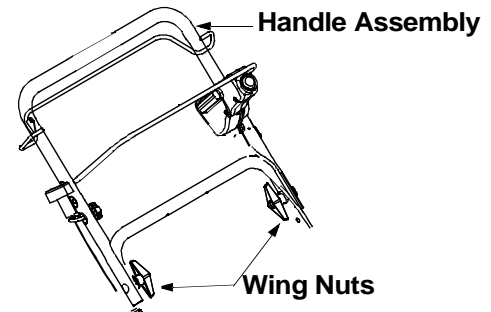

Figure 3
- Tighten the two wing nuts which are already on the handle. See Figure 3.